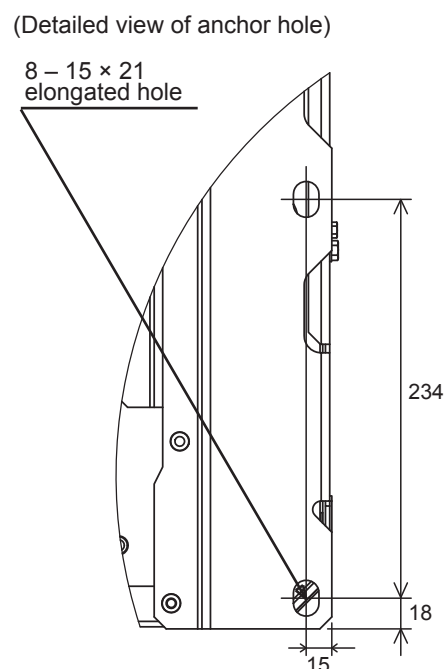
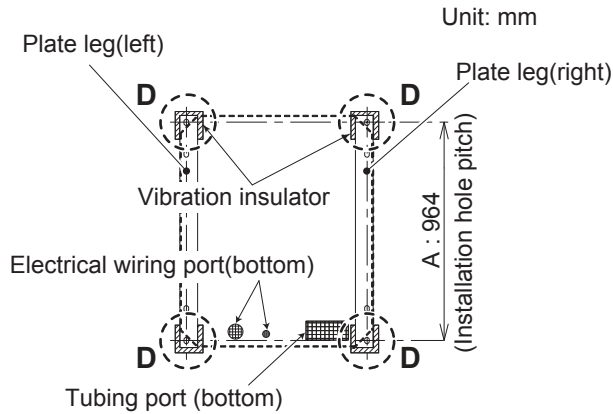

Fig. 2-4-20
Fig. 2-4-21a
- (2) When only using a single outdoor unit, see the Figure 2-4-20.
Be sure to use the same thickness of all vibration insulators and make adjustment so that they will become the same height each other. (Fig. 2-4-20 and Figs. 2-4-21a to 2-4-21f)